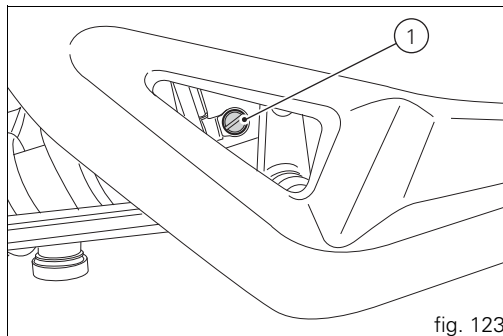
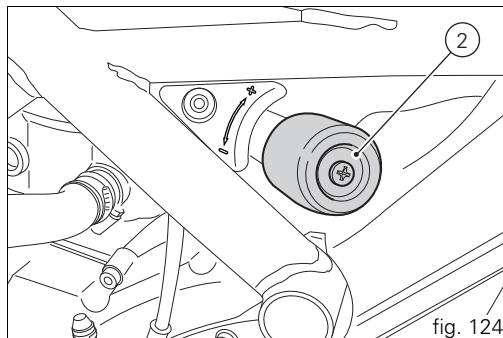
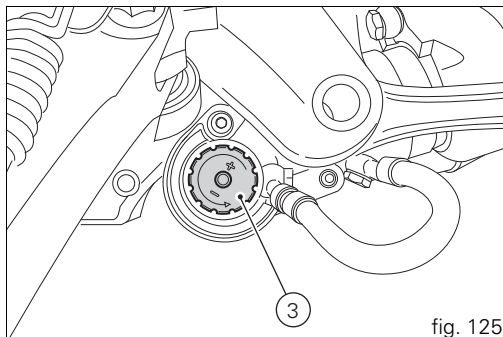

fig. 123
fig. 124
fig. 125
The adjuster (1, fig. 123) located on the lower connection holding the shock absorber to the swingarm adjusts the rebound damping.
The knob (2, fig. 124) located on the left side of the motorcycle adjusts the preload of the shock absorber external spring.
The knob (3, fig. 125) located on the expansion reservoir of the shock absorber adjusts the compression damping. Turning the adjusters (1) or the knobs (2) and (3) clockwise increases damping or preload; turning them in the opposite direction decreases them. STANDARD calibration; from the fully closed position (clockwise) unscrew: adjuster (1, fig. 123) by 12 clicks; knob (2, fig. 124) FULLY OPEN (counterclockwise); adjuster (3, fig. 125) by 25 clicks.